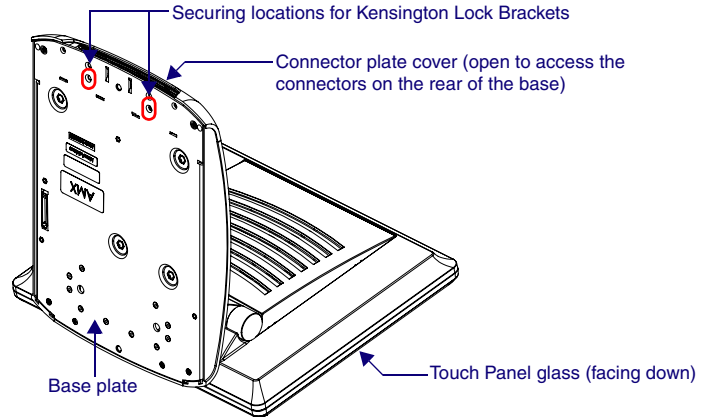

FIG. 2 Location of the securing locations on an NXT (Table Top) panel
1. Gently place the touch panel LCD facedown onto a soft cloth to expose the under-side of the base and prevent scratching of the LCD (FIG. 2).
2. Tilt the base forward so that the bottom surface of the base is easily accessible. This provides access to the underside of the unit and exposes the securing location for the Kensington Lock Bracket (FIG. 2).
1. Raise the Connector Plate Cover, and align the openings on the bottom of the Raised Lock Bracket to the securing locations on the Base Plate of the panel (FIG. 2).